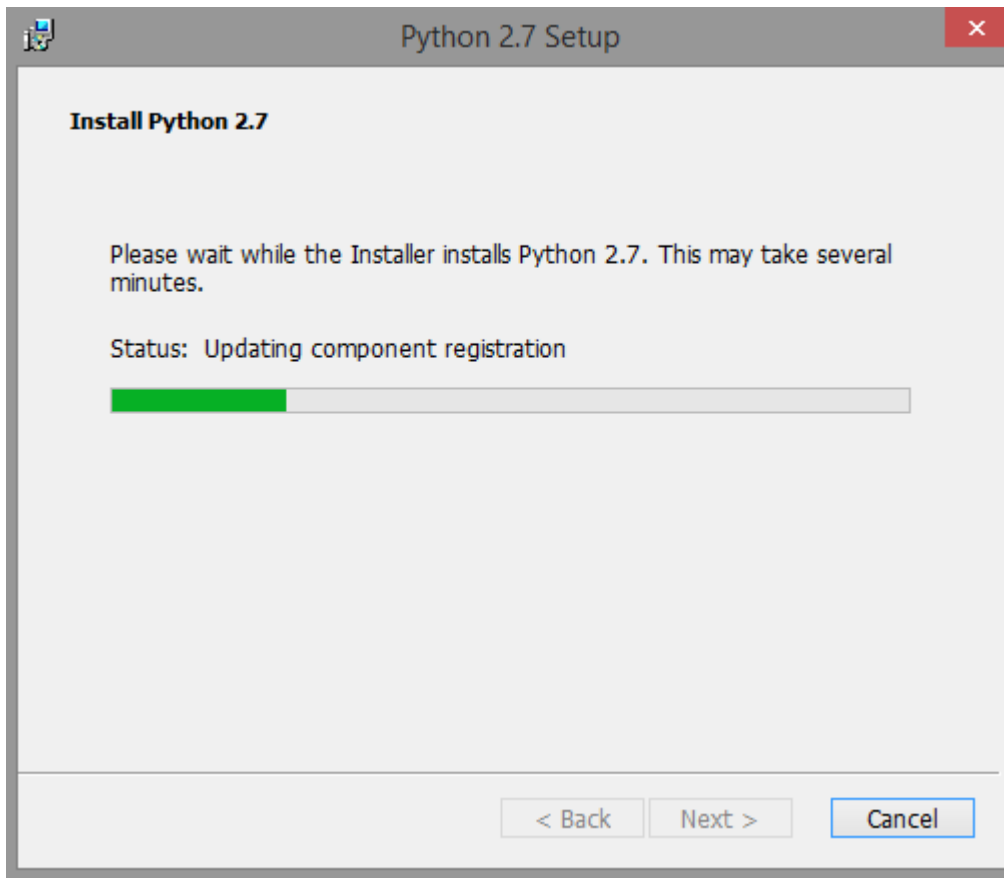

Figure 1-12. Python Installation Progress
9. Python installation starts. The progress is shown as in Figure 1-12.